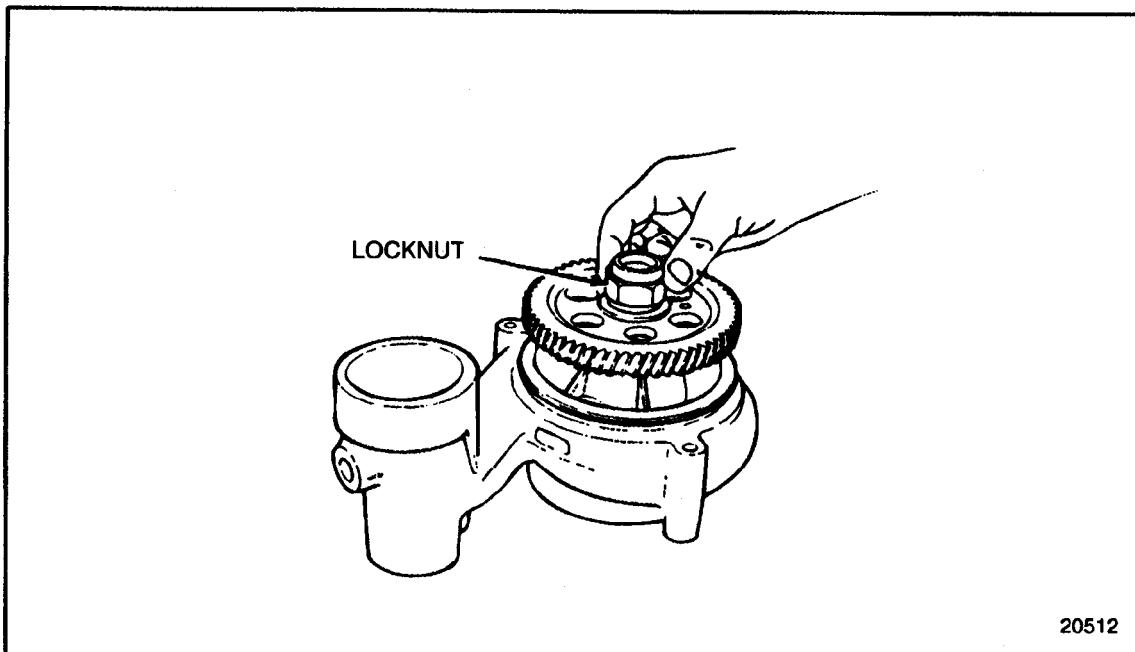

Figure 4-64 Locknut Installation (FM)
28. Install locknut to the drive shaft threads. See Figure 4-64.